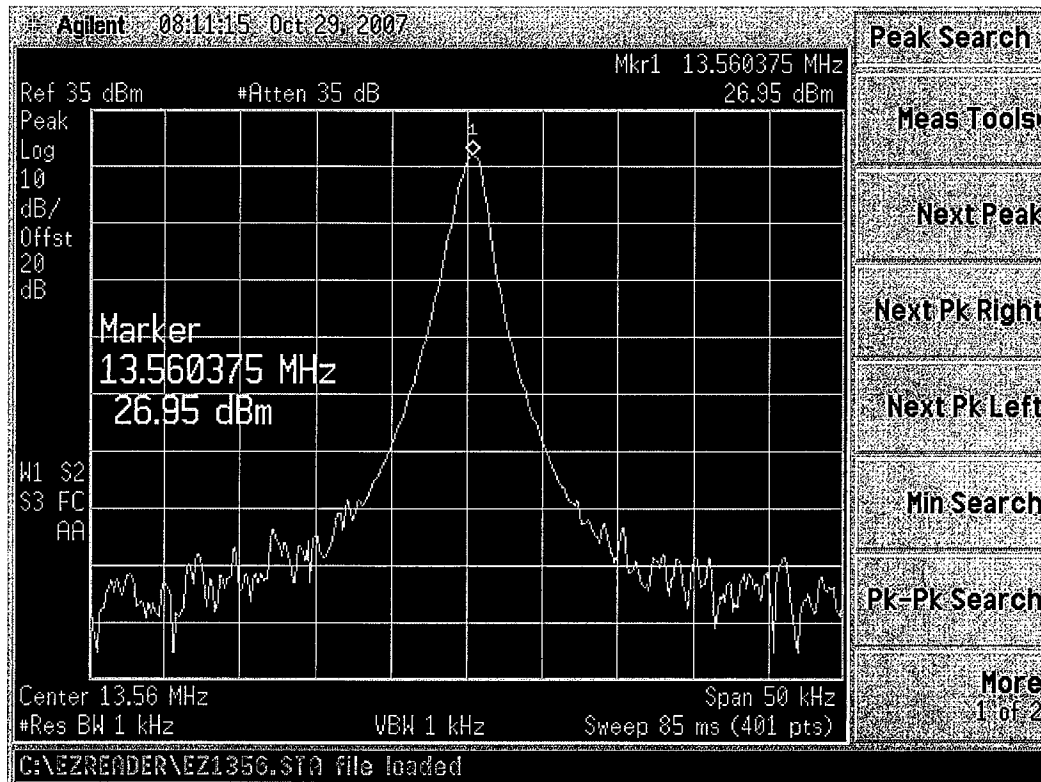

Figure 16
- 9.8.11 Repeat steps 9.8.5 thru 9.8.8 for the .5Watt setting, use 27 dBm (+/- .2dB) as the level you are trying to achieve, your result should look like Figure 16.